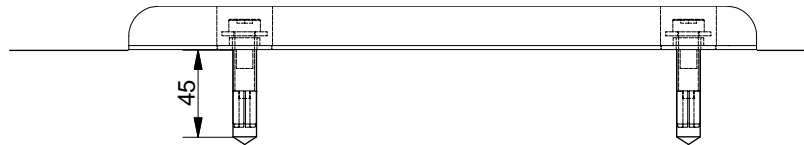
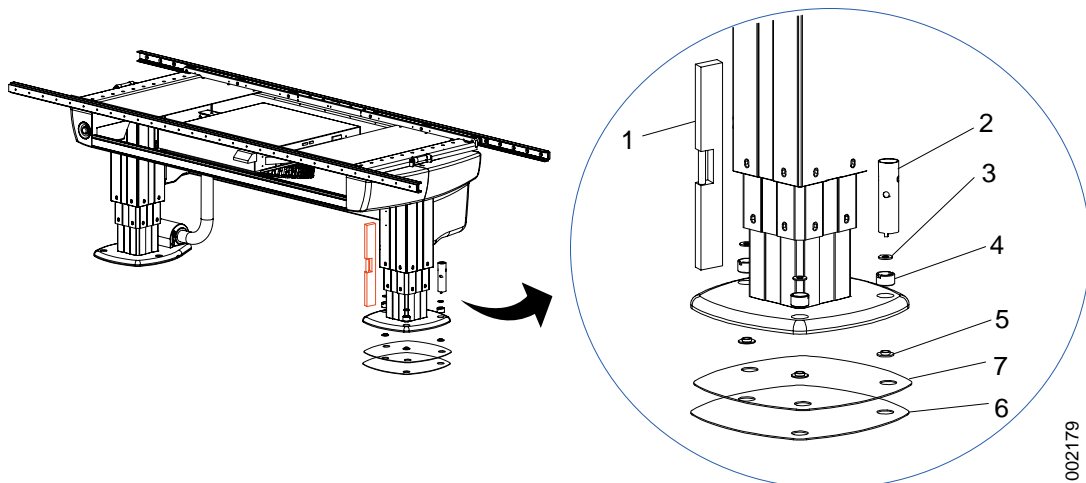

Fig. 5-43
Fig. 5-44
3. Place the Table over the drilled holes and install the insulation plate and washers according to Fig. 5-43 and Fig. 5-44 .
5. Place a spirit level (1) on two adjacent sides of each column. The column shall be  $90^\circ$  with a tolerance of  $\pm 0.5^\circ$ .
6. To adjust the column use the adjusting bolts (4) and the installation tool (2), see Fig. 5-44. The adjusting bolts are only for alignment. Shims shall be used to align table top.